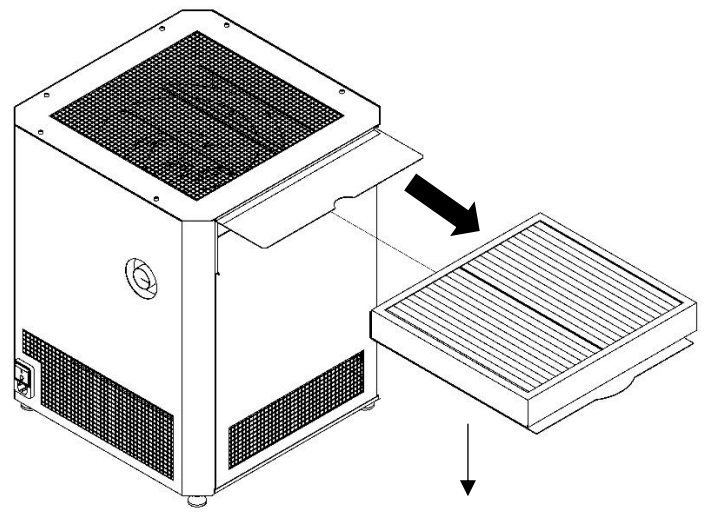

Figure 5
- 3.) Remove old air filter by sliding out removable filter tray. See Figure 5.